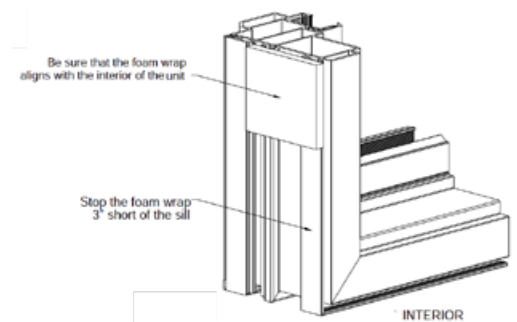

Figure A2
7. The foam wrap should be lined up with the interior of insert window, leaving the exterior side walls of insert window bare. (**Figure A2**)
9. Leave 3" or greater un-wrapped at the bottom of the insert window on each side. (**Figure A2**)